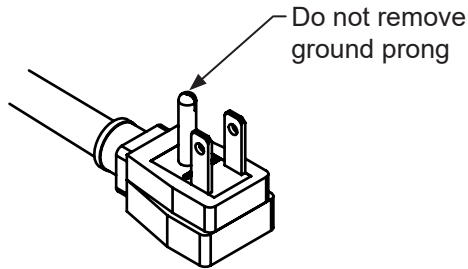

Figure 4
- Do not remove the grounding prong from the power cord. (See Figure 4.)